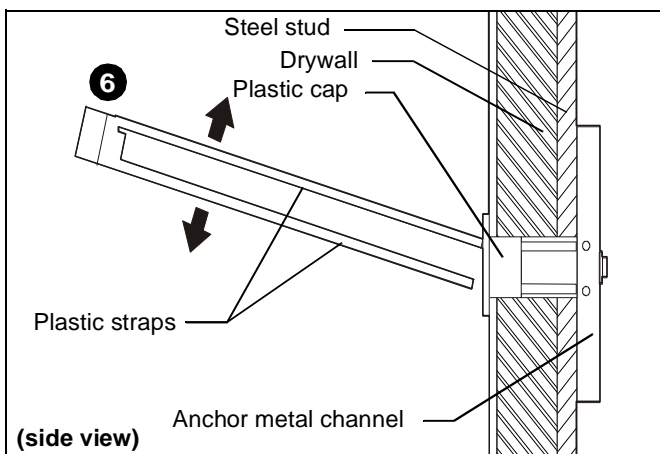

Figure 7
6. Snap off plastic straps on anchor at wall by pushing side to side, snapping off straps level with flange of plastic cap. (See Figure 7)